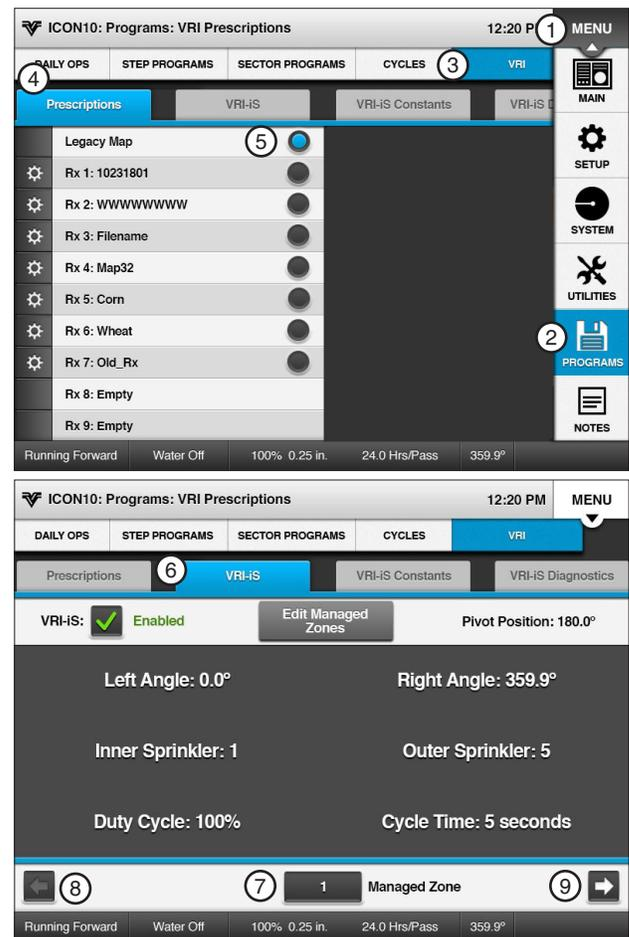

Figure 173-1
2. Select the **Legacy Map** radio button and the VRI-iS tab. Refer to Figure 173-1.